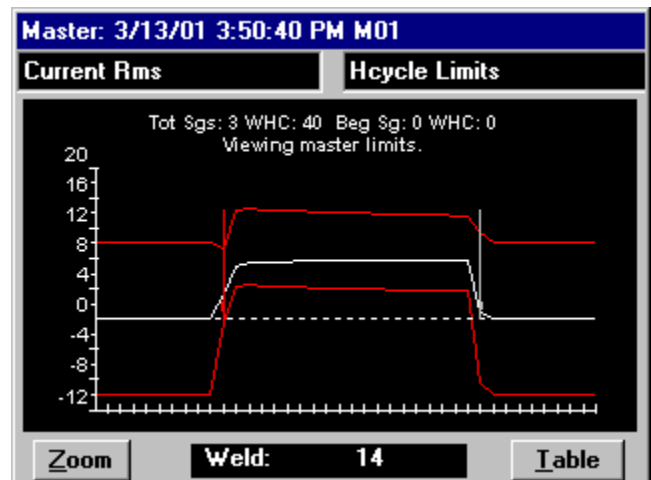

Figure 5-15 Halfcycle Summary, Current Rms shown with Halfcycle Limits
4. Go to the **Halfcycle Summary** Screen to graphically compare the halfcycle data with the master tolerance limits. Change the parameter in the top left box to **Current Rms** and the parameter in the top right box to **Hcycle Limits**. Your screen should now look similar to figure 5-15.